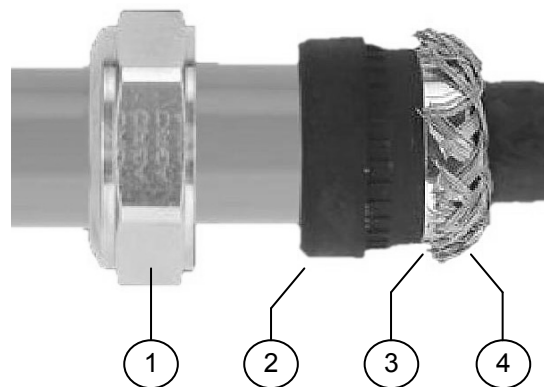

Figure 6: Cable shield
- 1 Push the cap nut (1), seal insert (2) and gland contact socket (3) onto the cable.
- 3 Bend over the screen braiding (4) over the gland contact socket and cut back the screen braiding as shown in Figure 6.